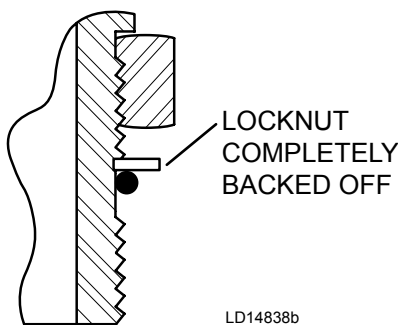

FIGURE 29 - BACK OFF LOCKNUT
4. Back off the locknut as far as possible as shown in *Figure 29 on page 47*. Make sure the backup washer is NOT loose, and it is pushed up as far as possible.